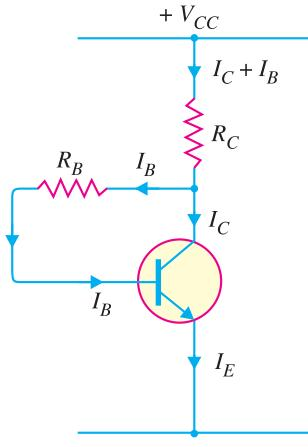

Fig. 9.19
In this method, one end of  $R_B$  is connected to the base and the other end to the collector as shown in Fig. 9.19. Here, the required zero signal base current is determined *not* by  $V_{CC}$  but by the collector-base voltage  $V_{CB}$ . It is clear that  $V_{CB}$  forward biases the base-emitter junction and hence base current  $I_B$  flows through  $R_B$ . This causes the zero signal collector current to flow in the circuit.
**Circuit analysis.** The required value of  $R_B$  needed to give the zero signal current  $I_C$  can be determined as follows. Referring to Fig. 9.19,
**Note.** It can be easily proved (See \*\*example 9.17) that Q-point values ( $I_C$  and  $V_{CE}$ ) for the circuit shown in Fig. 9.19 are given by ;
\*\* Put  $R_E = 0$  for the expression of  $I_C$  in example 9.17. It is because in the present circuit (Fig. 9.19), there is no  $R_E$ .